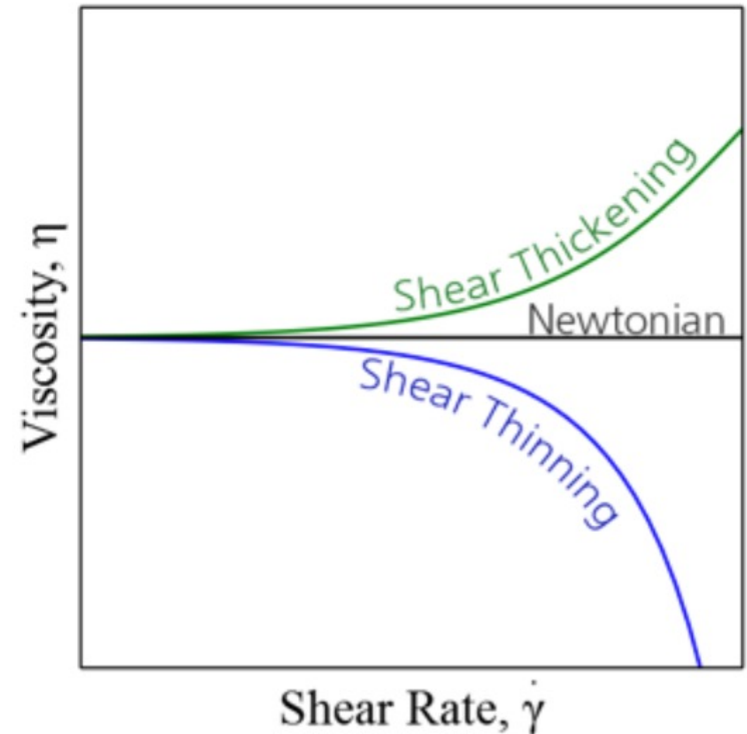

Figure 2. Viscosity of Newtonian, Shear Thinning and Shear Thickening fluids as a function of shear rate.
- Some examples of Newtonian fluids include water, organic solvents, and honey. For those fluids viscosity is only dependent on temperature. This means that the viscosity of Newtonian fluids will remain a constant (see Figure 2) no matter how fast they are forced to flow through a pipe or channel (i.e. viscosity is independent of the rate of shear).